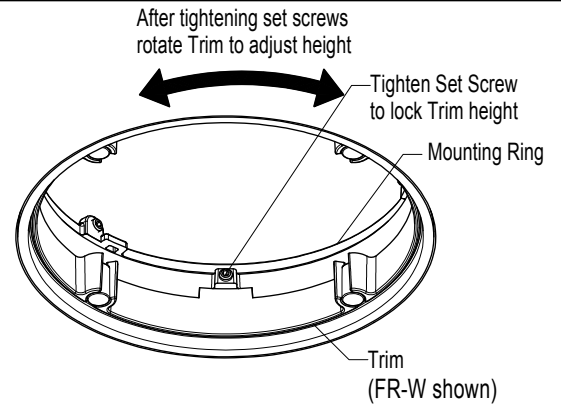

FIG 3.4 Adjust Trim Height
STEP 7 Lock Trim height with Set Screw - FIG 3.4.